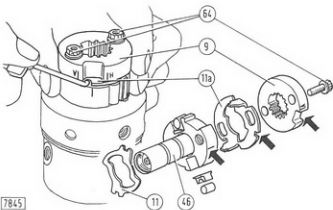

Fig. 74 - Reassembling Maximum Fuel Adjustment Device
- For maximum fuel device (see Fig. 74) and governor linkage reassembly and adjustment proceed as directed below.
On reassembly, refit the components to rotor (46, Fig. 74) so that reference slot in front adjusting plate (11a) and the milled recess in the periphery of drive flange (9), with letter "A" facing as shown, are in alignment with the reference line stamped on the rotor.
Maximum Fuel Device Operation - Maximum fuel delivery to the injectors is related to maximum plunger stroke during the metering phase (see a, Fig. 81). This stroke is controlled by the eccentric slots of adjusting plates (11 and 11a, Fig. 74) which check roller shoe ear displacement (see 14 and 62). Pump plunger stroke can be adjusted by slackening adjusting plate screws (64) and turning the adjusting plates slightly, so as to alter roller shoe ear abutment point (see Fig. 74).
- To adjust, turn the adjusting plates as necessary (see Fig. 74) and retighten the screws to the prescribed torque.
- Remove cover plate (96, Fig. 69) and slacken retaining screws (64, Fig. 74).
- Turn the adjusting plate as shown in Fig. 74, until the prescribed fuel delivery is obtained. Note that .5 mm. (.020 in.) adjusting plate displacement is equivalent to a 1 cm³ fuel volume variation.